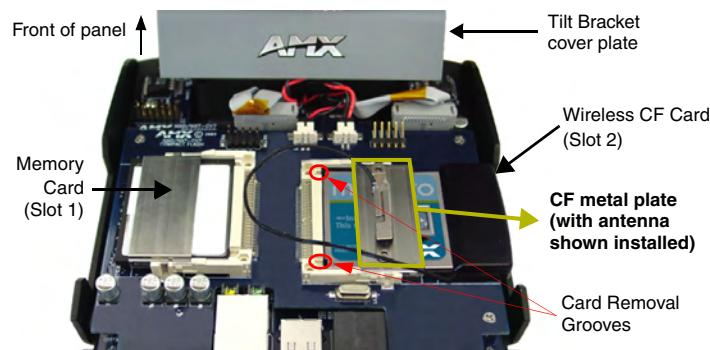

FIG. 8 Location and orientation of the card slots (on both CV7/CV10 panel types)
- Discharge any static electricity from your body by touching a grounded metal object and then locate wireless card slot on the main board (FIG. 8).
- Remove one of the included alcohol pads and use it to thoroughly clean both the CF metal cover (FIG. 8) and the metal plate on the underside of the terminal antenna (FIG. 1). These surfaces must be properly cleaned to provide good adhesion for the later installation of the wireless antenna.